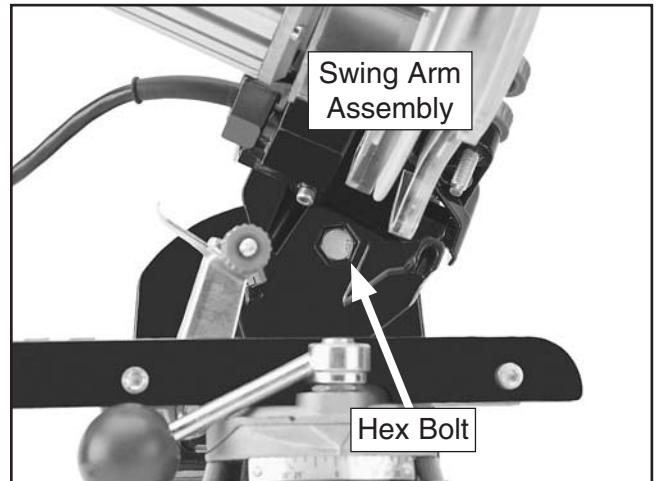

Figure 9. Swing arm hex bolt inserted.
3. While holding the swing arm in place, insert the M10-1.5 x 40 hex bolt through the hex-shaped hole in the swing arm vertical face, then secure the arm to the base with the 10mm fender washer and M10-1.5 lock knob, as shown in **Figures 9–10**.